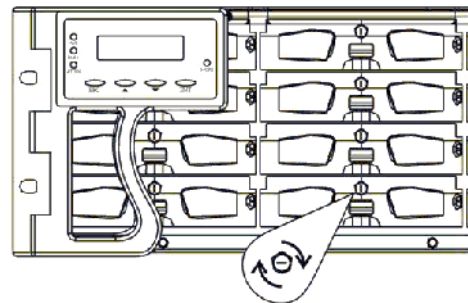

Figure 13: Drive Tray Key-lock Rotation
Step 4: Close the front flap on the drive tray. Make sure the front flap is closed properly. Closing the front flap ensures that the SCA connector at the back of the drive tray is firmly connected to the corresponding connector on the mid-plane board. If the front flap is not closed properly, then the connection between the HDD and the subsystem will not be secure. To lock the flap into place turn the key-lock until the groove on its face is in a vertical orientation. (See *Figure 13*)